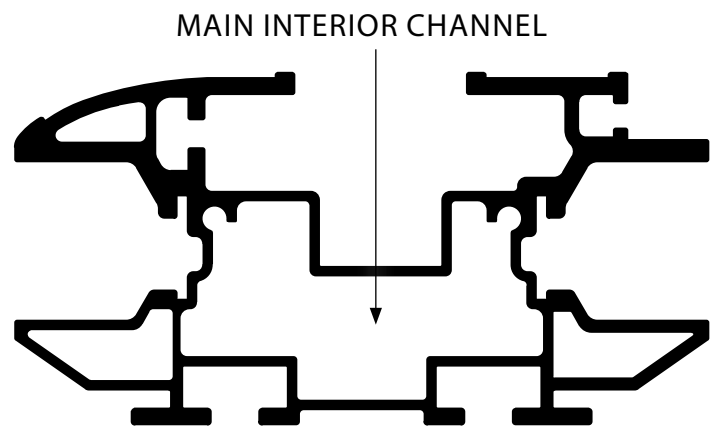

Figure 9-2
5. Replace charge strip in both ends of the rail routing the wire through the main interior channel. [Figure 9-2]